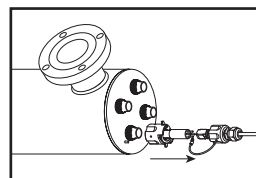
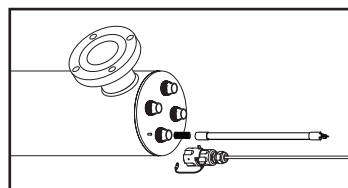

FIGURE 2B
FIGURE 2C
2. Disconnect main power source and allow the unit to cool down for 10 minutes. Remove connector and lamp from the reactor chamber. Separate the lamp from the connector (Figure 2B). Do not twist the lamp from the connector, simply slide the two apart. Avoid touching the lamp on the glass portion. Handling the lamp at the ceramic ends is acceptable, however if you must touch the lamp glass, please use gloves or a soft cloth. Fully remove the lamp from the reactor chamber being careful not to angle the lamp as it is removed from the chamber. If the lamp is removed on an angle, pressure will be applied on the inside of the quartz sleeve, causing the sleeve to fracture.
3. To install a new lamp, first remove the lamp from its protective packaging, again being careful not to touch the lamp glass itself. Carefully insert the lamp into the reactor vessel (actually inside the quartz sleeve) (Figure 2C). Insert the lamp fully into the chamber leaving about two inches of the lamp protruding from the chamber. Next, attach the connector to the UV lamp (Figure 2B). For Lamp 1 replacement, it is important to remember the lamp is not keyed so it must be ensured that the lamp wires do not interfere with the UV sensor detection as low UV alarms could result in Hi-Flo Monitored systems. The two wires should be oriented furthest away from the sensor port. Ensure the connector